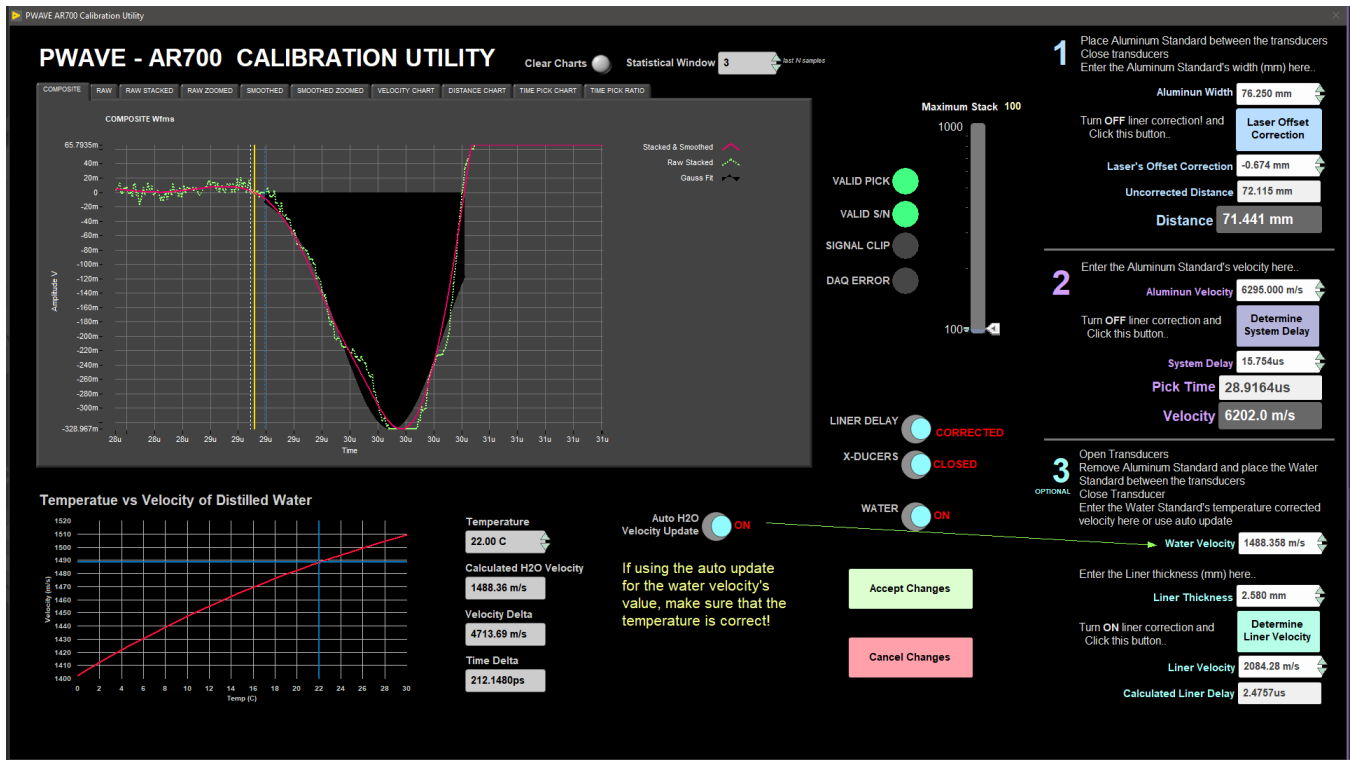

Figure 12. P-Wave Calibration Utility.
1. In the **Instrument** menu, select **PWAVE: Calibrate-Utility** and the **PWAVE Calibration Utility** window will open (Figure 12).
Use the Stack slider in the **PWAVE CalibrationUtility** window to adjust the measurement parameters to obtain a better waveform (Figure 12). These parameters may need to be adjusted if the section material has changed.